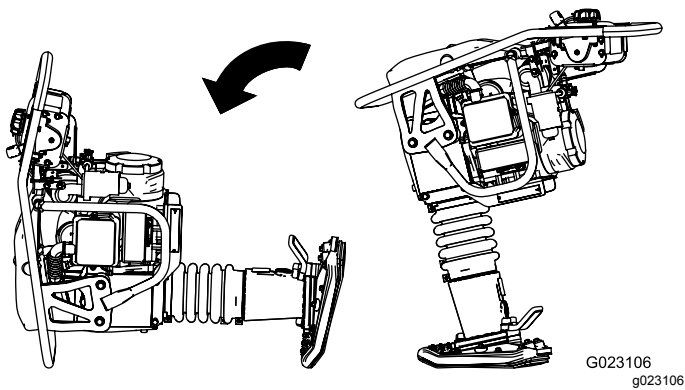

Figure 10
3. Carefully position the machine as shown in Figure 10, and secure it with straps or chains to prevent it from moving or tipping.